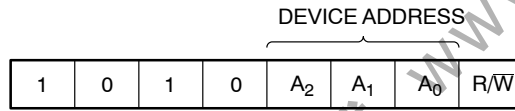

Figure 3. Slave Address Bits
The Master initiates data transfer by creating a START condition on the bus. The Master then broadcasts an 8-bit serial Slave address. The first 4 bits of the Slave address are set to 1010, for normal Read/Write operations (Figure 3). The next 3 bits, A₂, A₁ and A₀, select one of 8 possible Slave devices and must match the state of the external address pins. The last bit, R/W, specifies whether a Read (1) or Write (0) operation is to be performed.